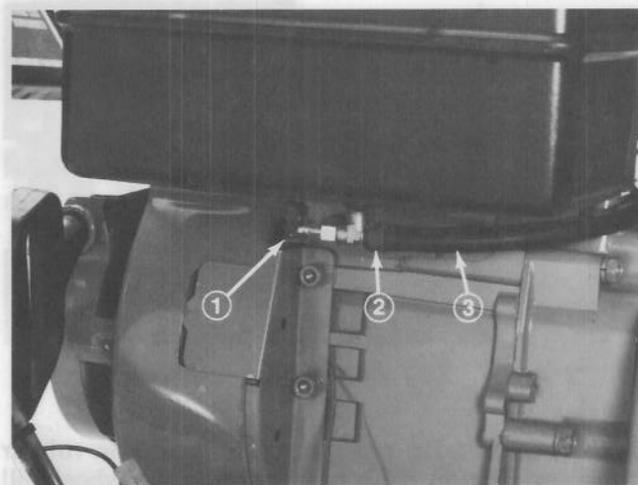

Figure 30
1. Close fuel shut off valve located under engine (Fig. 30).
3. Loosen hose clamps securing fuel line to valve and slide line off valve (Fig. 30).